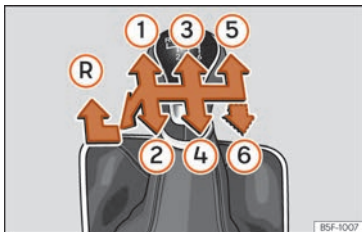

Fig. 150 Gear shift pattern of a 5 or 6-speed manual gearbox.
The position of the gears is indicated on the gearbox lever » **Fig. 150**.
- With the gearbox lever in neutral, push it downwards, move it to the left as far as it will go and then forwards to select reverse » **Fig. 150 (R)**.